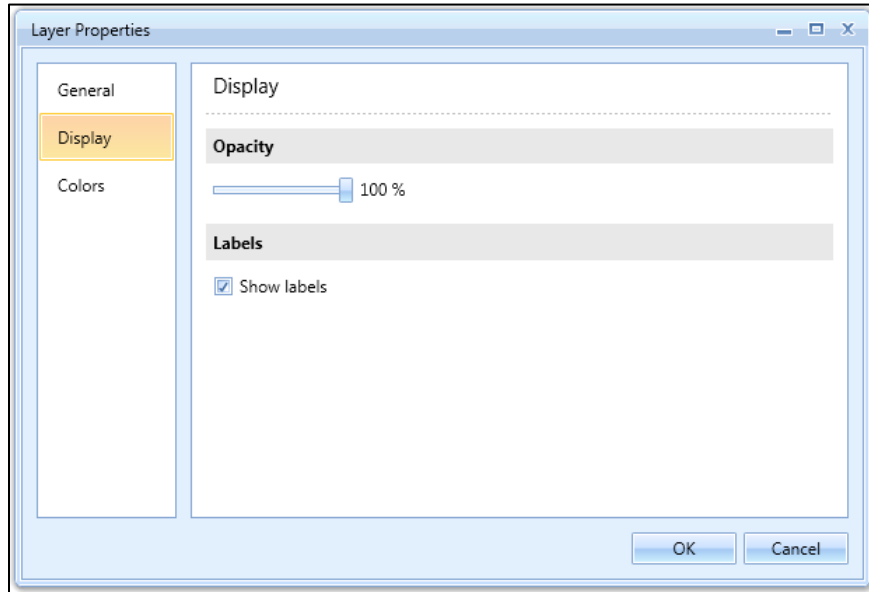

Figure 3-18 Layer Properties Dialog – Display
4. Click *Display* to change opacity and show or hide labels (Figure 3-18).